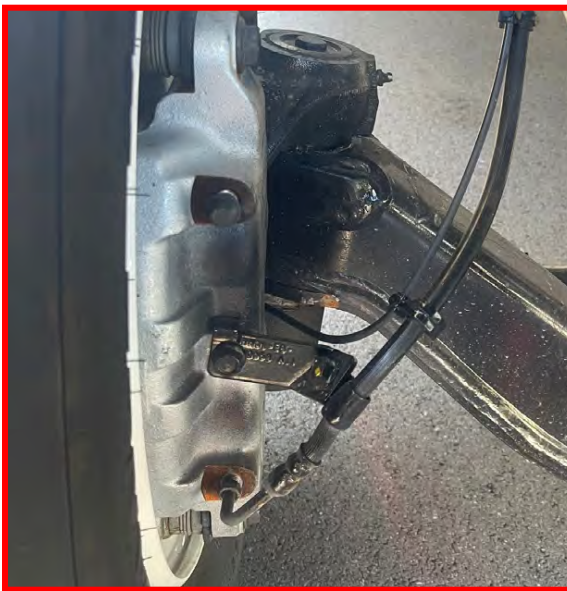

Figure 1 - Hose A (Incorrect)
2. Check the rubber brake hose shape to determine if the vehicle has Hose A (Figure 1) or Hose B (Figure 2) currently installed.